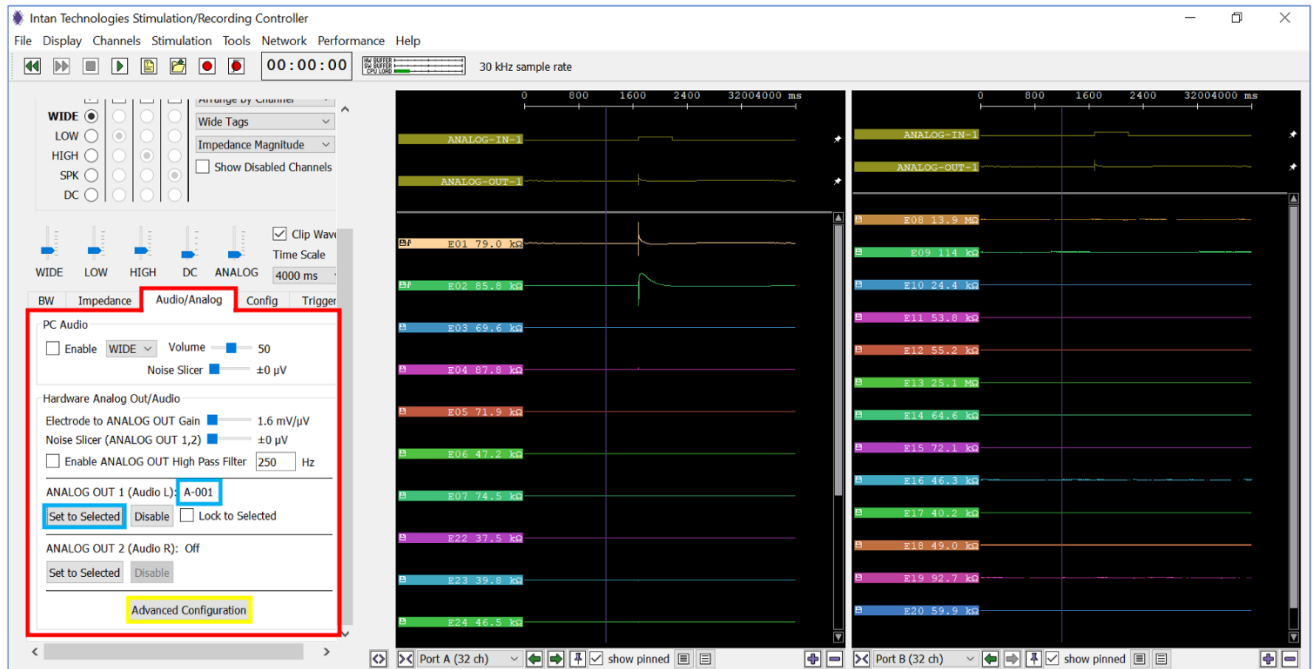
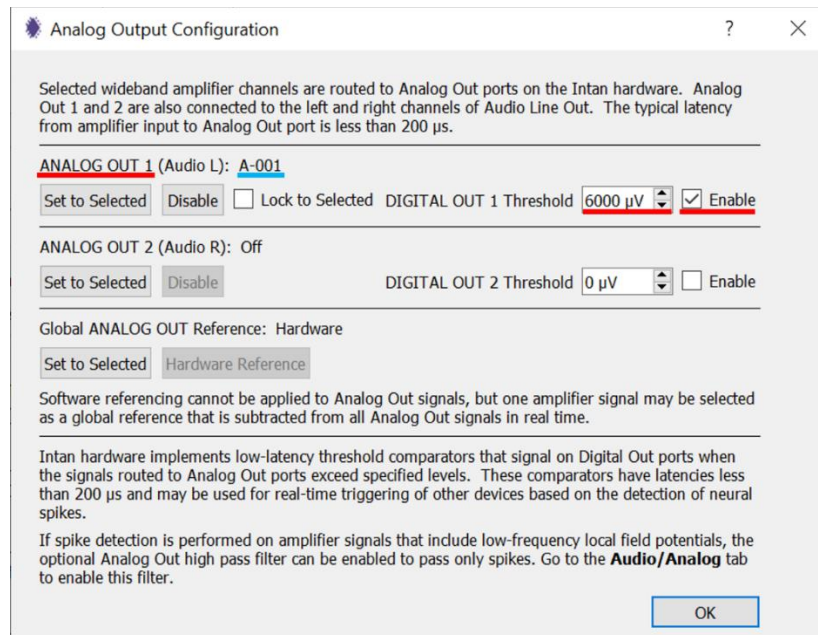

Fig. 91: Setting the analog output 1 signal to the stim channel to trigger data recording.
Fig. 92: Setting the parameter of the digital output 1 (linked to the stim channel).
- ii) Go to the "Audio/Analog" tab of the Control Panel (red box in **Fig. 91**).
- iii) Under the "ANALOG OUT 1 (Audio L):" section, click "Set to Selected" (blue box in **Fig. 91**). The stimulating channel will now be displayed next to the "ANALOG OUT 1" label (blue underline in **Fig. 92**). The signal from the selected channel (A-001) will now be routed to the Analog-Out-1 port.
- v) Click the Advanced Configuration button (yellow box in **Fig. 91**).
- vi) In the "Analog Output Configuration" window, set the "DIGITAL OUT 1 Threshold" to 6000 μ V and check the "Enable" option to the right (red underlines in **Fig. 92**).